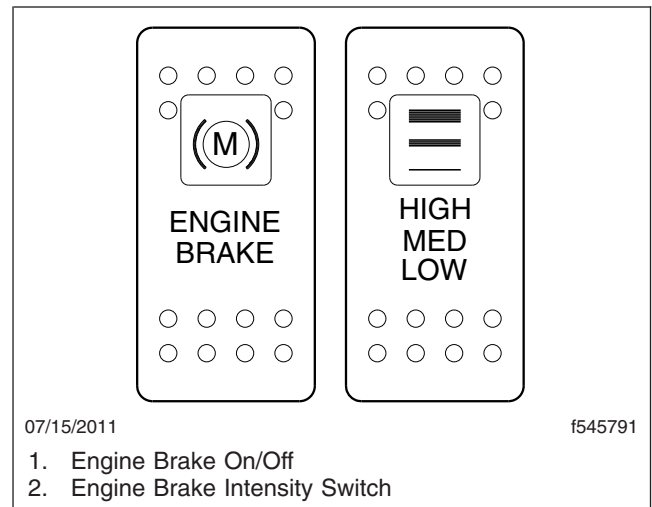

Fig. 4.15, Engine Brake Switches
- The ENGINE BRAKE switch is used to turn the engine brake on and off. See Fig. 4.15.